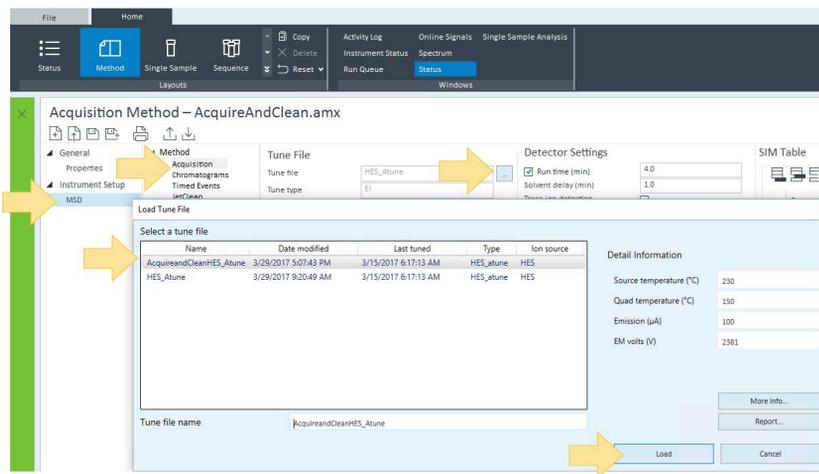
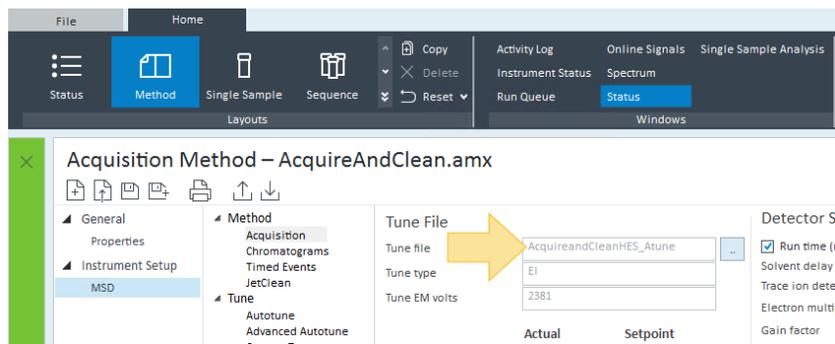

Figure 36. Select a Tune file to Load
Figure 37. Loaded Tune file
- a Select **MSD > Method > Acquisition**, click **Load a Tune File**  and select the tune file you created for this process. (AcquireandCleanHES\_Atune for this example.) (See Figure 36 and Figure 37.)